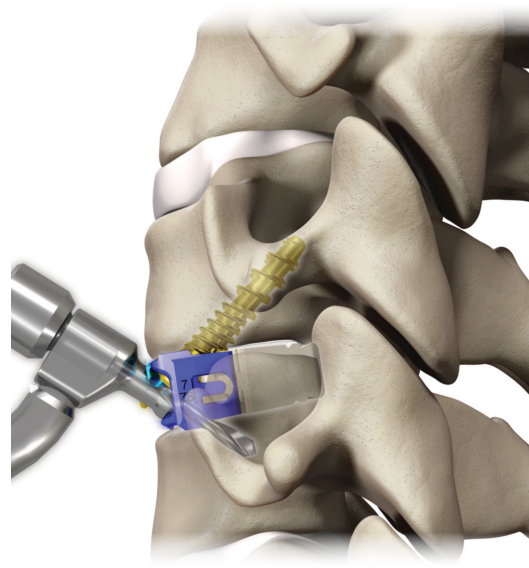

Figure 73
- The fixed or variable drill allows the awl/drill (straight, flexible, or U-joint options) to prepare for the midline screw hole. Seat the guide tip into the medial screw hole. Place the awl/drill through the selected drill guide until the positive stop contacts the guide. The awl/drill will create a pilot hole 6 mm deep. Intra-operative imaging should be used to verify awl/drill position and determine the appropriate screw length (Figure 73).